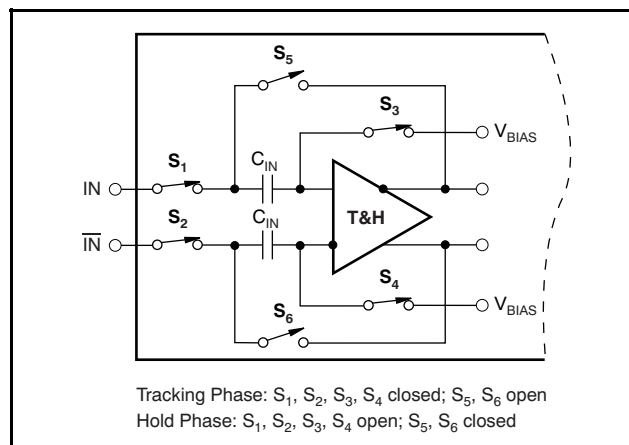

Figure 20. Simplified Circuit of Input Track-and-Hold Amplifier of ADS5220
The ADS5220 is a 12-bit, 40MSPS, CMOS ADC designed with a fully differential pipeline architecture. The pipeline consists of three sections: a 3-bit quantizer, seven stages with a 1.5-bit quantizer for each stage, and a 4-bit flash. The output of each pipeline stage is processed and formed into 12-bit data in the digital error correction logic section to ensure good differential linearity of the ADC. The converter includes a high bandwidth track-and-hold amplifier in the input stage as shown in Figure 20. The falling edge of the input clock initiates the conversion process. Once the signal is captured by the input track-and-hold, the bits are sequentially encoded starting with the Most Significant Bit (MSB). This process results in a data latency of 4.5 clock cycles. The ADS5220 includes a high accuracy internal reference and also allows the use of an external reference. The input full-scale range is up to $2V_{PP}$ and is selectable based on the reference voltage setting. For normal operation, both analog inputs (IN, $\overline{IN}$) require an external common-mode voltage as a bias. The output data of the ADS5220 are available as a 12-bit parallel word, either coded in a Straight Offset Binary or Binary Two's Complement format. The ADS5220 includes an on-chip duty-cycle adjust (DCA) circuit, controlled through the state of the *Mode Select* pin (3). When activated, this duty-cycle adjust circuit can accommodate for an incoming clock duty-cycle range